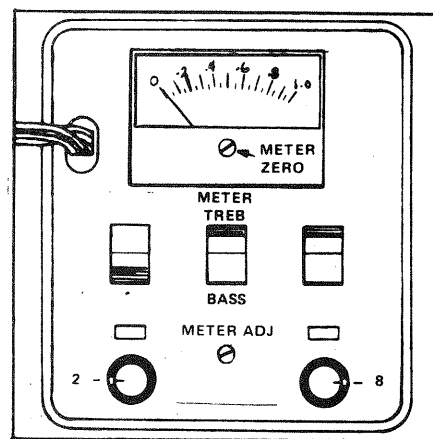

FIGURE 9-10 Test Box settings for meter calibration.
- B. Set the METER - TREB/BASS Switch (see FIGURE 9-10) to the BASS position.
- C. Set the PIANISSIMO Control to position 2 and the FORTISSIMO Control to position 8 as shown in FIGURE 9-10.
- D. If the meter pointer is not resting on the zero mark, adjust it so it does by turning the Meter Zero screw (see FIGURE 9-10) with a common screwdriver.